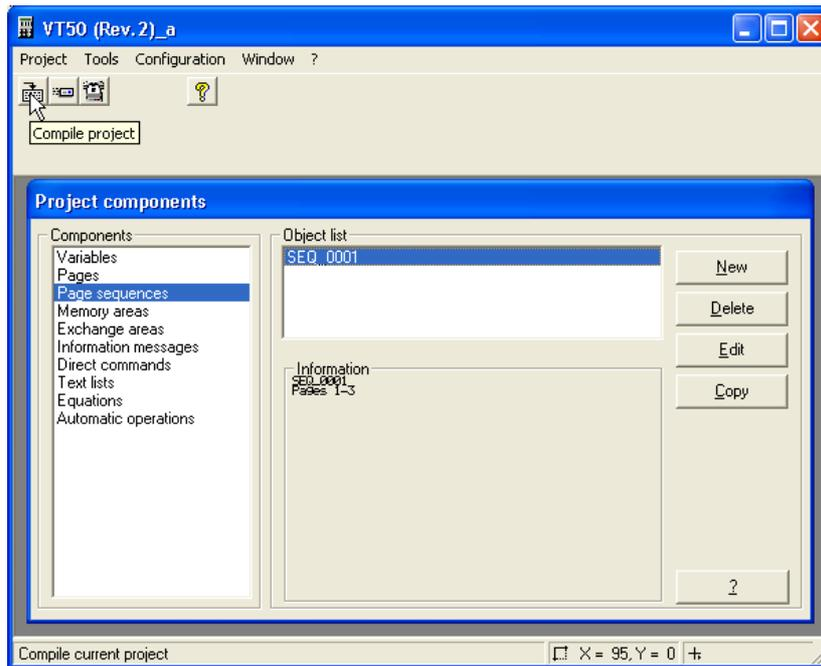

Fig. 33.
3.29 Click on the *Compile project* button from the main menu as shown in Fig. 33.